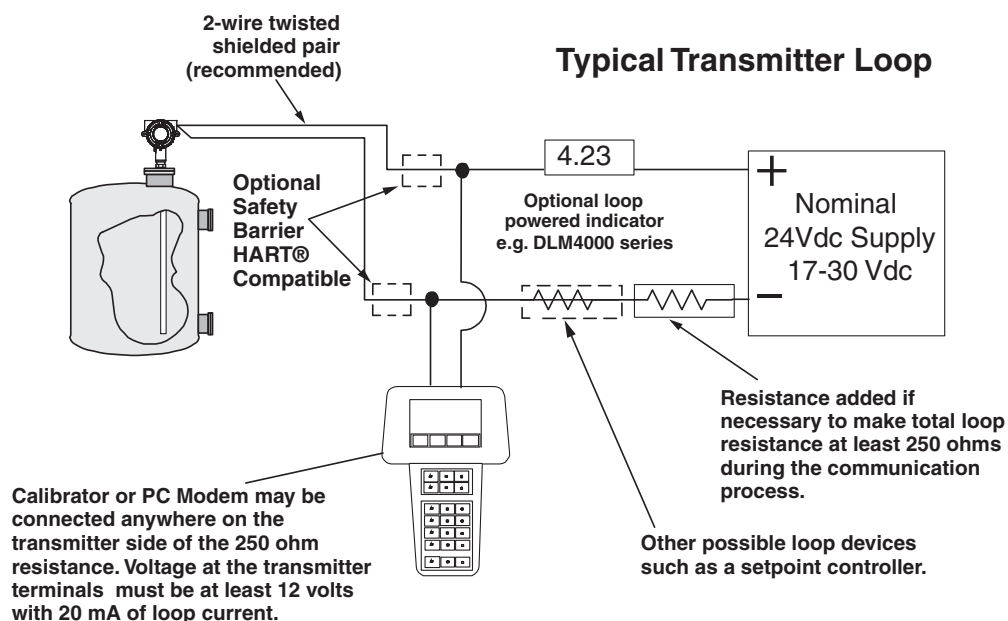

Figure 4-1
1. Connect the handheld calibrator as shown in **Figure 4-1**.